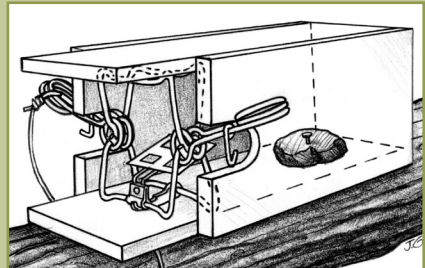
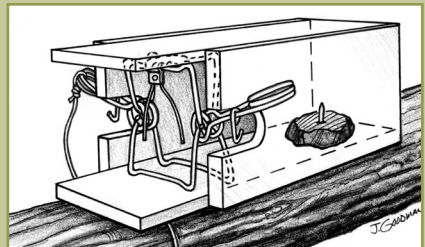

Figure MT2c. Bodygrip trap in pole set baited cubby with pan trigger
Figure MT2d. Bodygrip trap in pole set baited cubby with "V" configured trigger
- May be used on an elevated running pole or tree, or set in a baited cubby on or above the ground. May be deployed with a pan trigger (Figure MT2c) or a "V" trigger configuration (Figure MT2d).